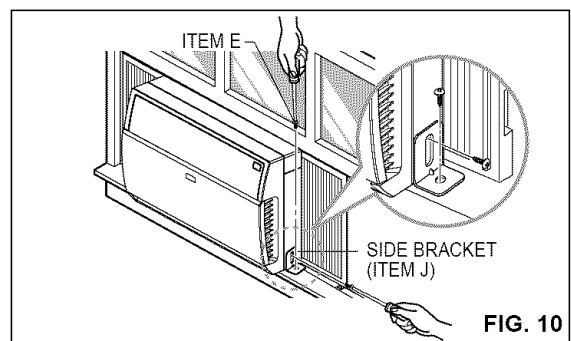

FIG. 10
- Attach the side bracket (ITEM J) in the inner window sill with a screw (ITEM E), as shown in FIG. 10, after removing the existing screw at right bottom side on cabinet.